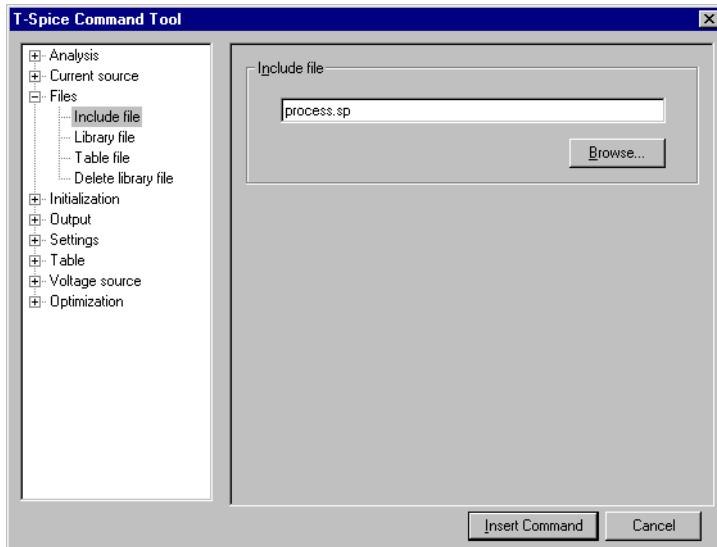

Figure 89: **T-Spice Command Tool** dialog
- Select the **Command Tool** button to enter the **Command** tool mode, or, left-click on the work area to invoke the **T-Spice Command Tool** dialog (Figure 89).